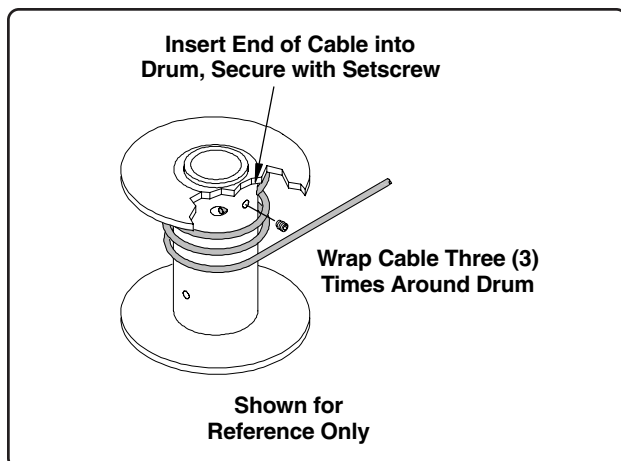

Fig. 40
3. Make three (3) wraps of cable around the winch drum, then insert the cable end into one of the larger holes on the winch drum (it may be necessary to loosen the setscrew to allow the cable to slide into the opening). **Make sure the cable is wrapped around the drum in the same direction as it was attached (See Fig. 40).**